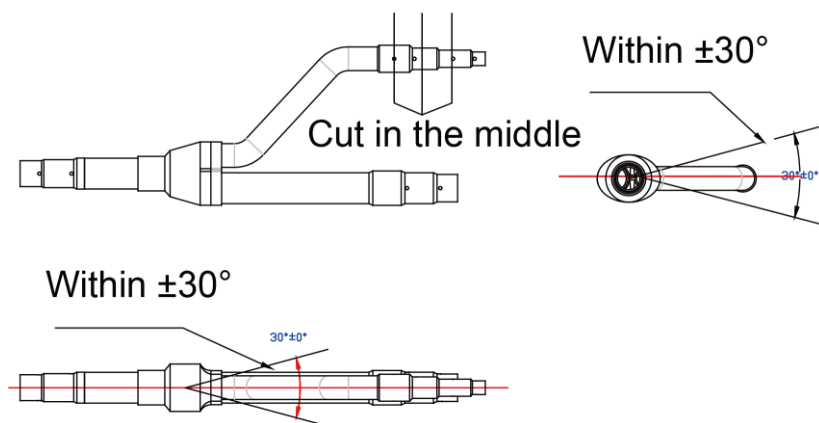

Fig.20
- (2) Y-type branch has several pipe sections with different dimension, which facilitates to match with various copper pipes. Use pipe cutter to cut in the middle of the pipe section that is of proper dimension and remove burrs as well. See Fig.20.
- (3) Y-type branch must be installed vertically or horizontally.